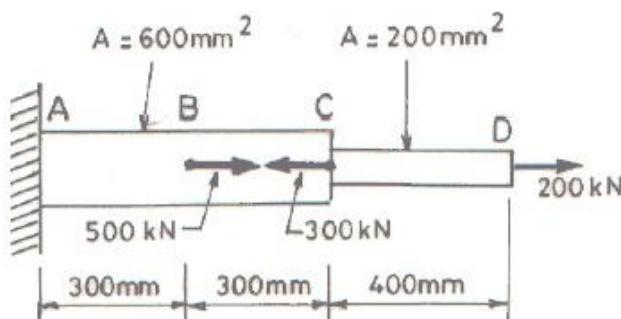

Fig. 1
1. Determine the deflection of the free end of the steel rod (**Fig. 1**) under the given load ($E = 200 \text{ GPa}$).